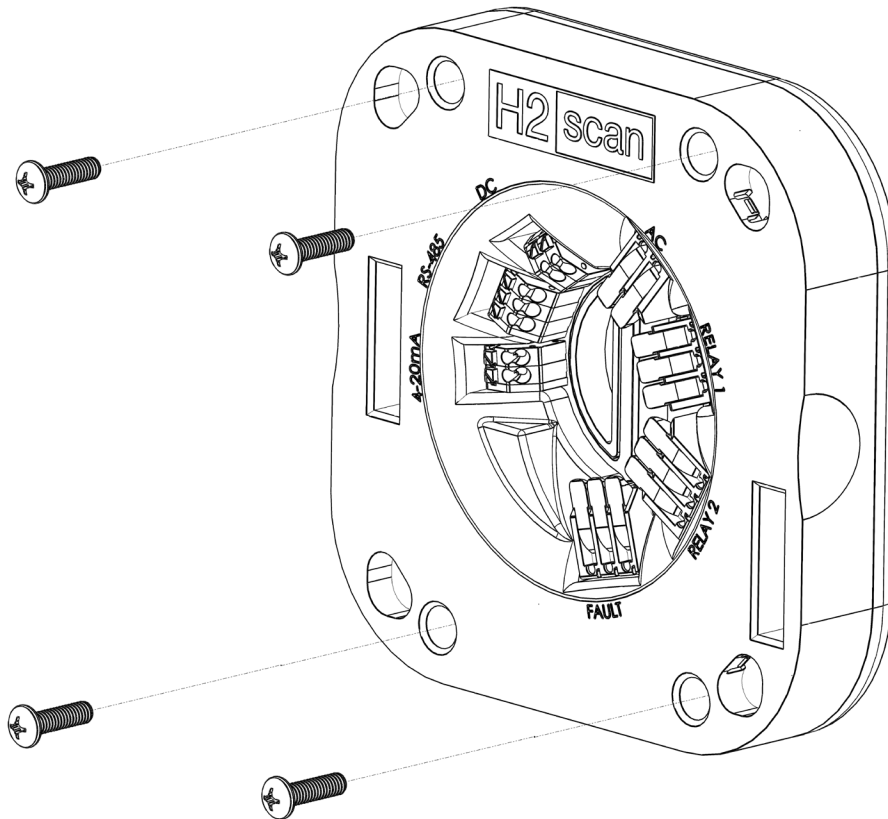

Figure 3: Secure Back Plate
1. Install back plate onto surface (see Figure 3).